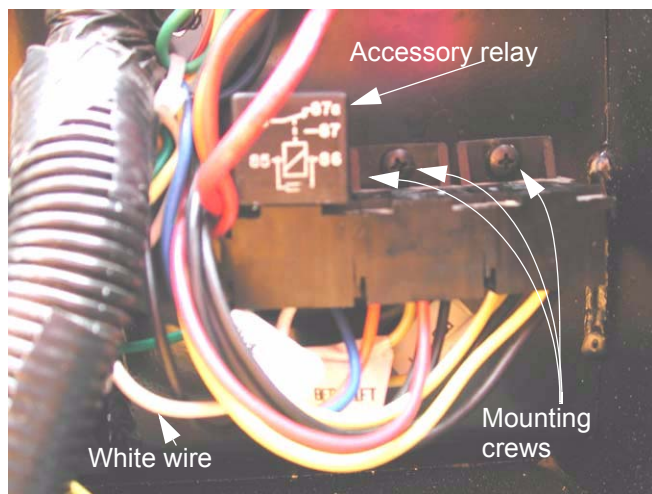

Figure 1.11
- 1.11. Remove the accessory relay from the relay block on the firewall. See Figure 1.11.